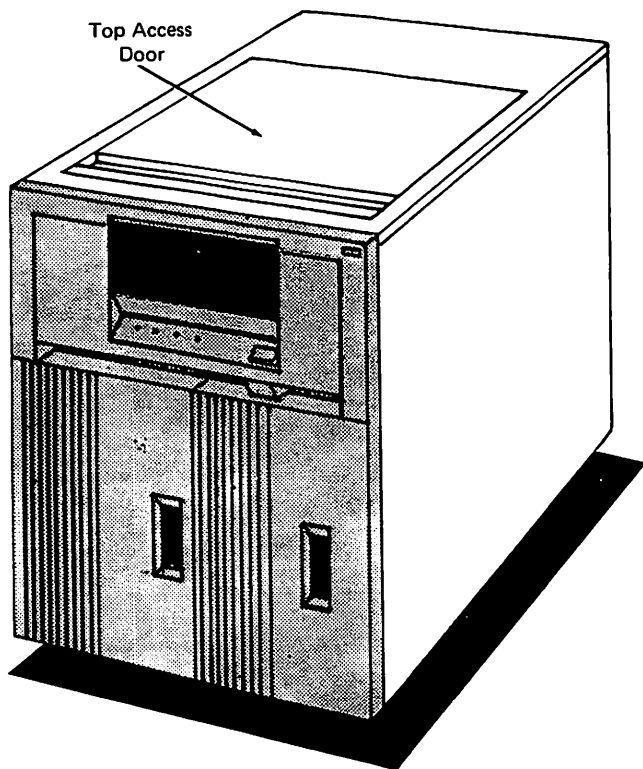

Figure 11 Tape manual loading and unloading
1. Carefully lift the top access door on the subsystem until the spring-loaded latch (located inside the cover, toward the bottom, and on the right side) locks into place. The top access door is shown in Figure 11.
If the tape drive can not complete the rewind/unload sequence, the supply reel must be rewound manually. Refer to Figures 11 and 12, and use the following directions to manually unload the tape. Make sure that the tape drive is not On-line (On-line indicator is not lit) before attempting to manually unload the tape.
1. Carefully lift up the top access door on the subsystem until the spring-loaded latch (located inside the cover, toward the bottom, and on the right side) locks into place. The top access door is shown in Figure 11.